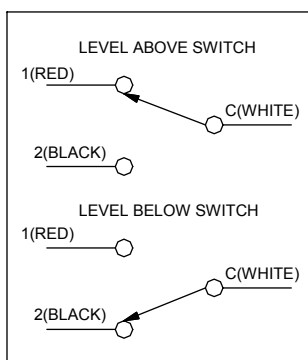

Figure 3 – Operation of Electrical Contacts
Note: The MS10 will also function when the electrical connection is aligned to the lowest position (bottom), however the electrical contacts will function opposite of the diagram (Figure 3).
2. Connect the field wires to the wiring harness of the MS10 according to the application. Reference Figure 3 for proper operation of contacts. Be sure to adequately insulate all electrical connections.